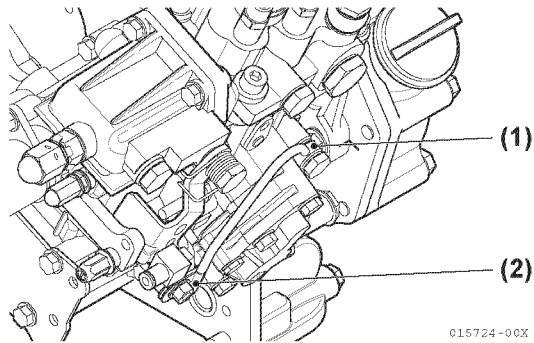

Figure 6-75
8. Reconnect the lubricating oil line **(Figure 6-75, (1))** and clamp **(Figure 6-75, (2))**.